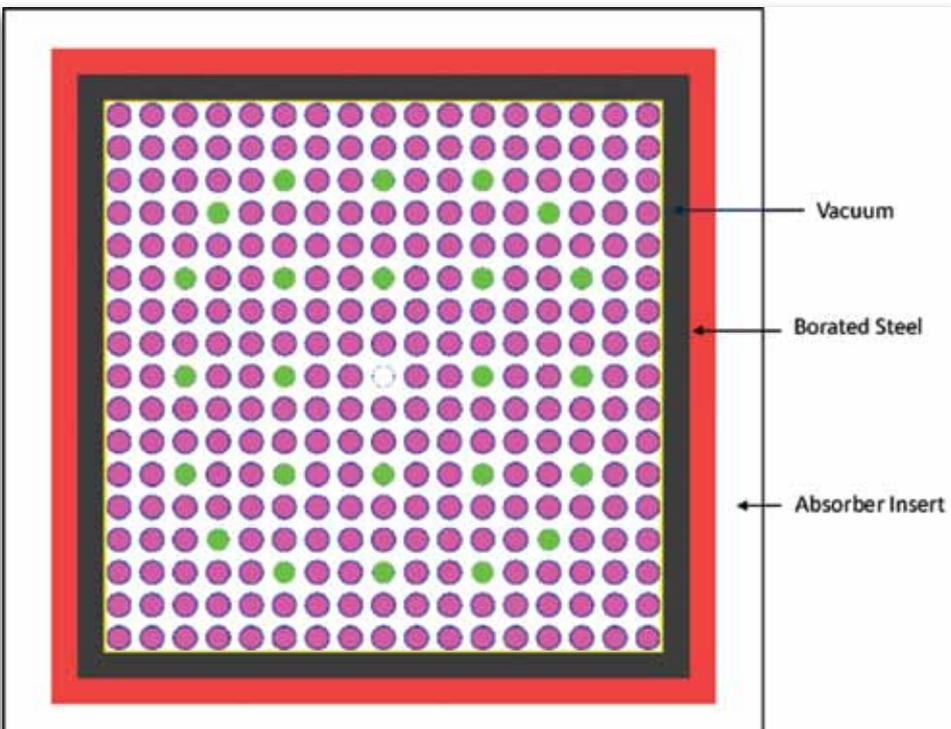

Fig. 3: Neutron absorber insert outside the fuel assembly flask
the absorber insert was placed on the outside, as shown in Figure 3.
- the second largest decrease was obtained when the absorber insert was placed outside the borated steel basket, as shown in Figure 3. This resulted in a decrease in k_{eff} ranging between 9.3355% and 11.5914%. Again, Boraflex had the highest decrease followed by AA1100_Fe ($\% \Delta k/k_{ref} = 10.081$) and lastly ALCANfeB4C15 ($\% \Delta k/k_{ref} = 9.335$); and